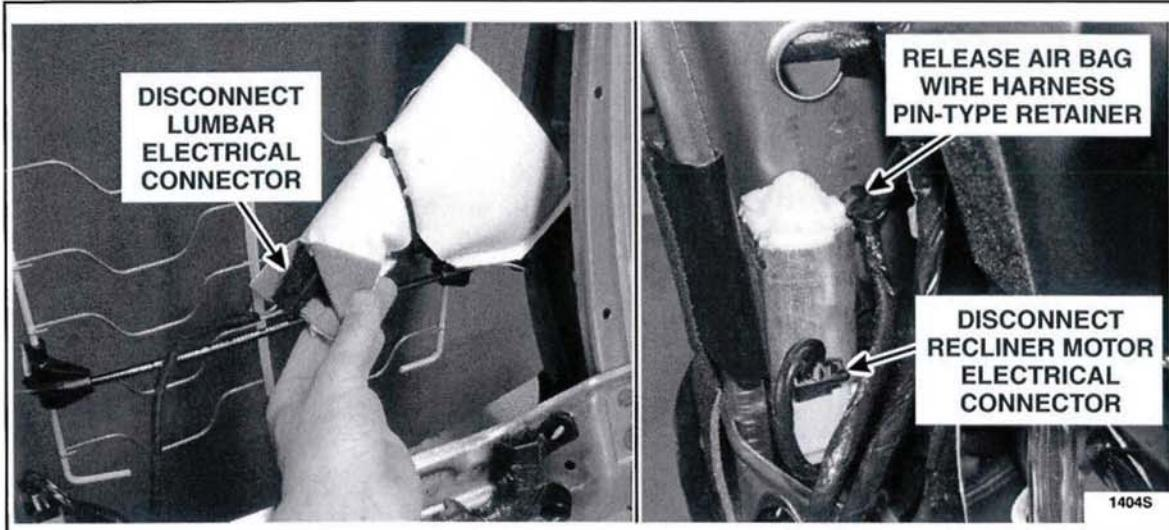

FIGURE 17
18. If equipped, disconnect the lumbar and recliner motor electrical connectors, and remove the air bag wire pin-type retainer from the backrest frame. See Figure 17.
3. Connect the lumbar and recliner motor electrical connectors, and secure the air bag wire pin-type retainer to the backrest frame. See Figure 17.